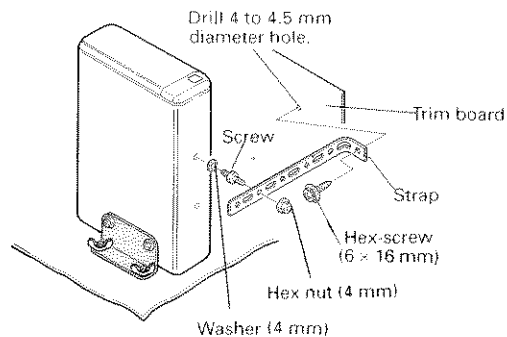
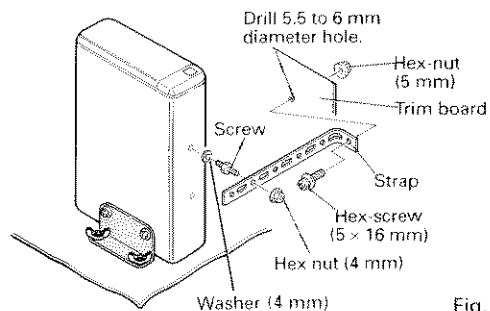

Fig. 7
Fig. 8
- When installing the mounting stay to the trim board in a vehicle, either the installing with self-tapping screws (Fig. 7) or installing with hex-screws (Fig. 8) is used.